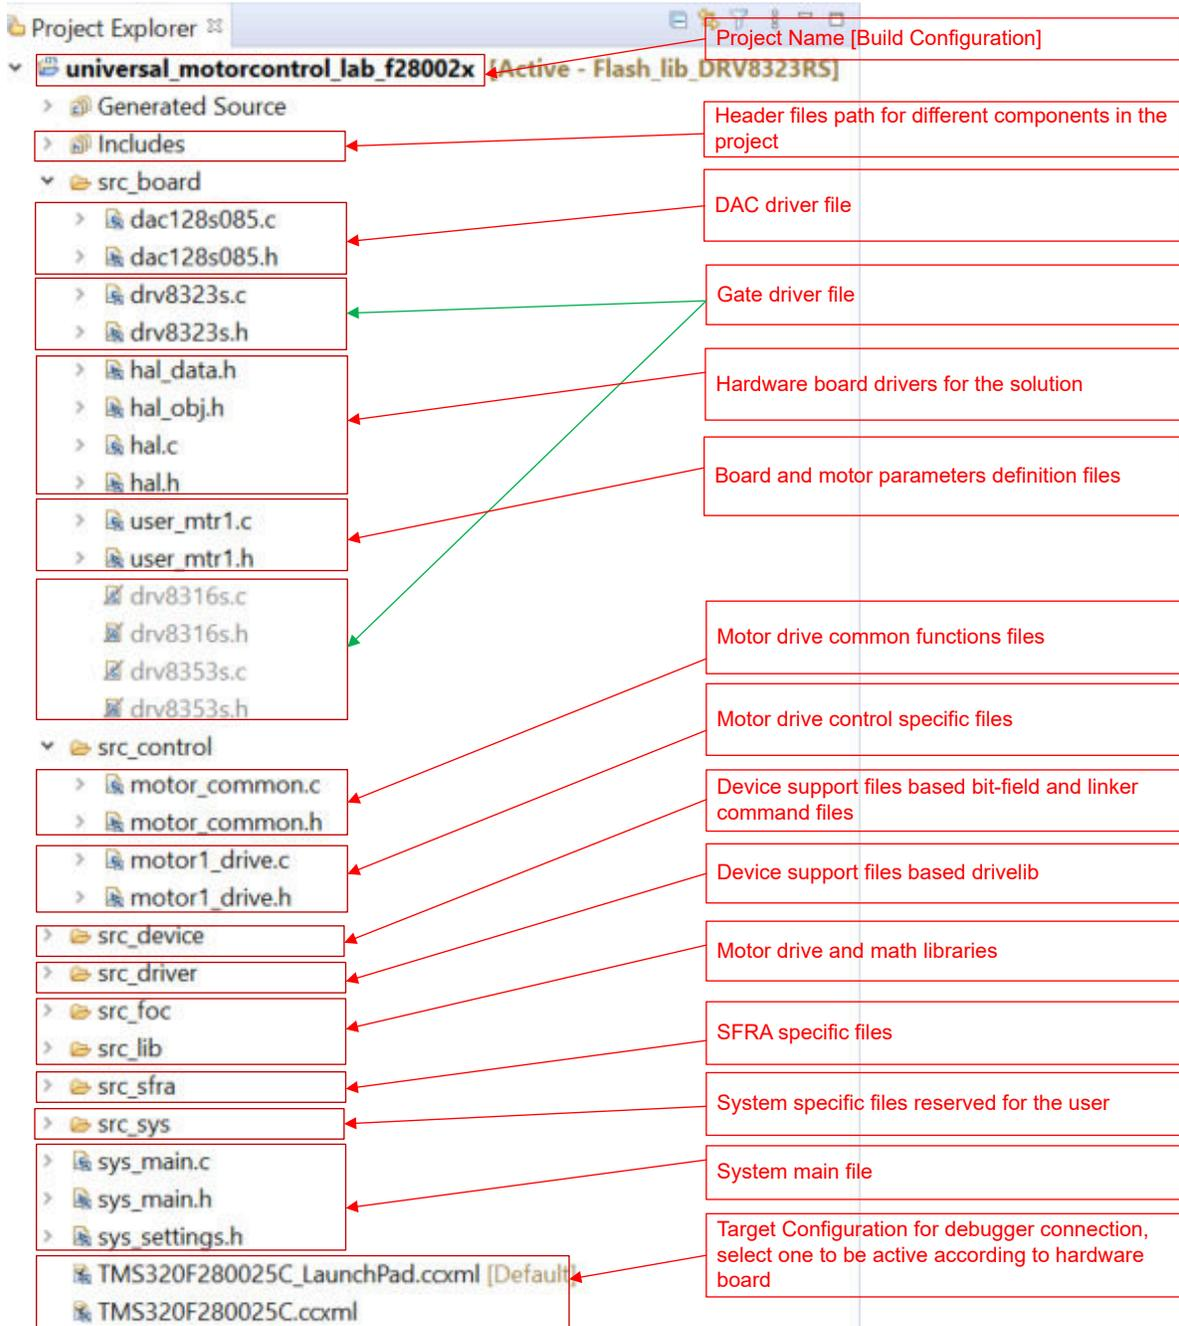

Figure 3-21. Project Explorer View of the Example Lab
4. Select the right target configuration file (.ccxml) as shown in Figure 3-21 by right clicking on the file name to select "Set as Active Target Configuration" and "Set as Default Target Configuration" on the pop-up menu.
Once the project is imported into CCS, the project explorer will appear inside CCS as shown in Figure 3-21.